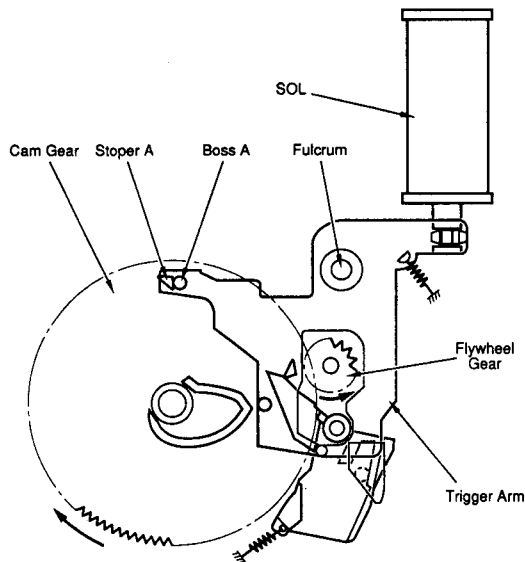

FIG. 1
1. At key on the main monitor (MM) rotates.
2. After 300 ms, when SOL is pulled for 40 ms, boss A of the tip of the trigger arm comes apart from the cam gear's stopper A. [Fig. 1, 2]